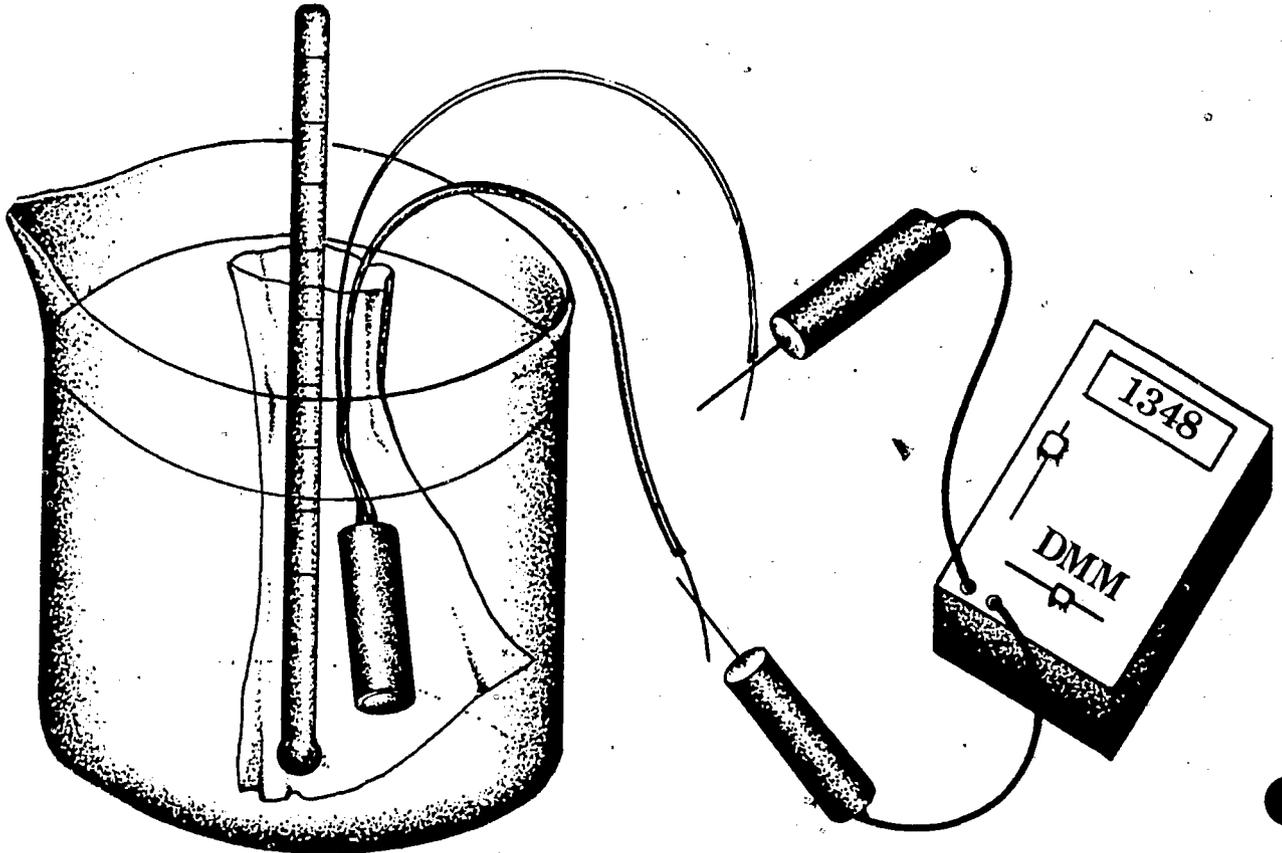

FIGURE 2-39
4. Place the sensors and thermometer in an ice bath, and, after they have had time to stabilize, measure and record the temperature and each sensor's resistance. If the sensors cannot be immersed directly in water, place them and the thermometer in a small watertight plastic, as shown in figure 2-39. Remove the air from the bag and close the top with a rubber band. The time required for the temperature of the sensor to stabilize may take a little longer, but the sensors will stay dry.